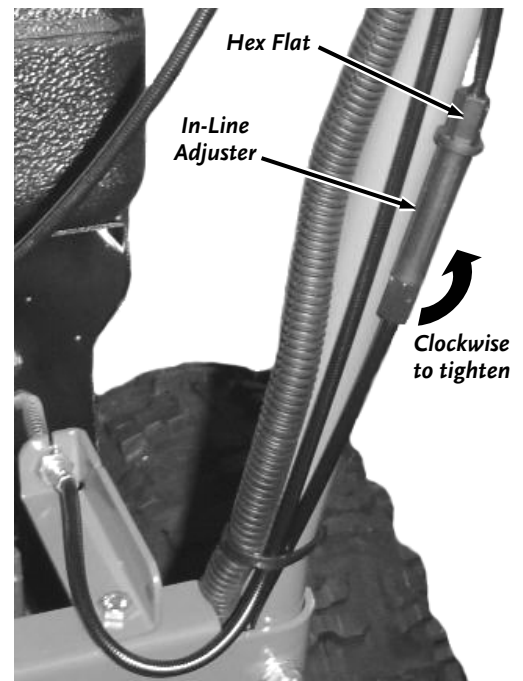

Figure 28
1. Locate the Differential Lock In/Out Cable along the right Handlebar. There is an In-Line Adjuster to change the length of the Cable (**Figure 28**).
3. You can take the slack out of the cable by holding the Hex Flat Section at the top of the In-Line Adjuster and rotating the body of the In-Line Adjuster in the clockwise direction as you look up the Cable toward the Control Panel. If the Cable is too tight, you can loosen the Cable by twisting the adjuster in the opposite direction (**Figure 28**).